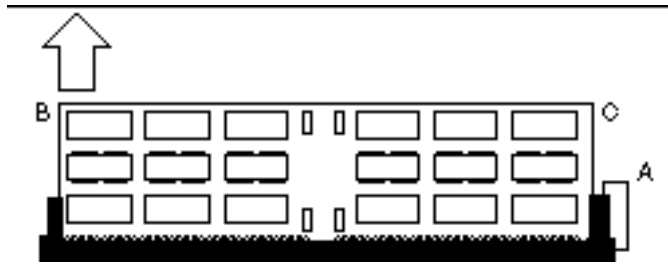

Figure 8-2 Pulling the Ejection Lever
5. **Pull the ejection lever (A) in the opposite direction of the DSIMM you want to eject. See Figure 8-2.**